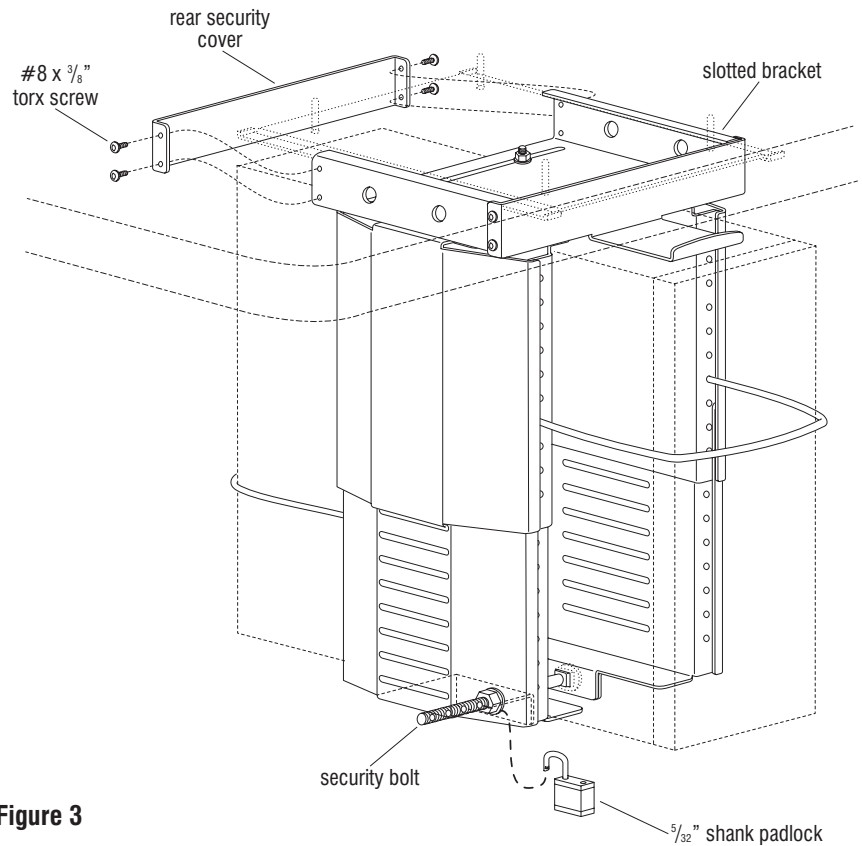

Figure 3
7. On the security bolt, lock a padlock through the hole closest to the nut to secure (Figure 3).
8. Install the rear security cover over the back of the slotted bracket and secure with four #8 x $\frac{3}{8}$ " Torx head screws (Figure 3).